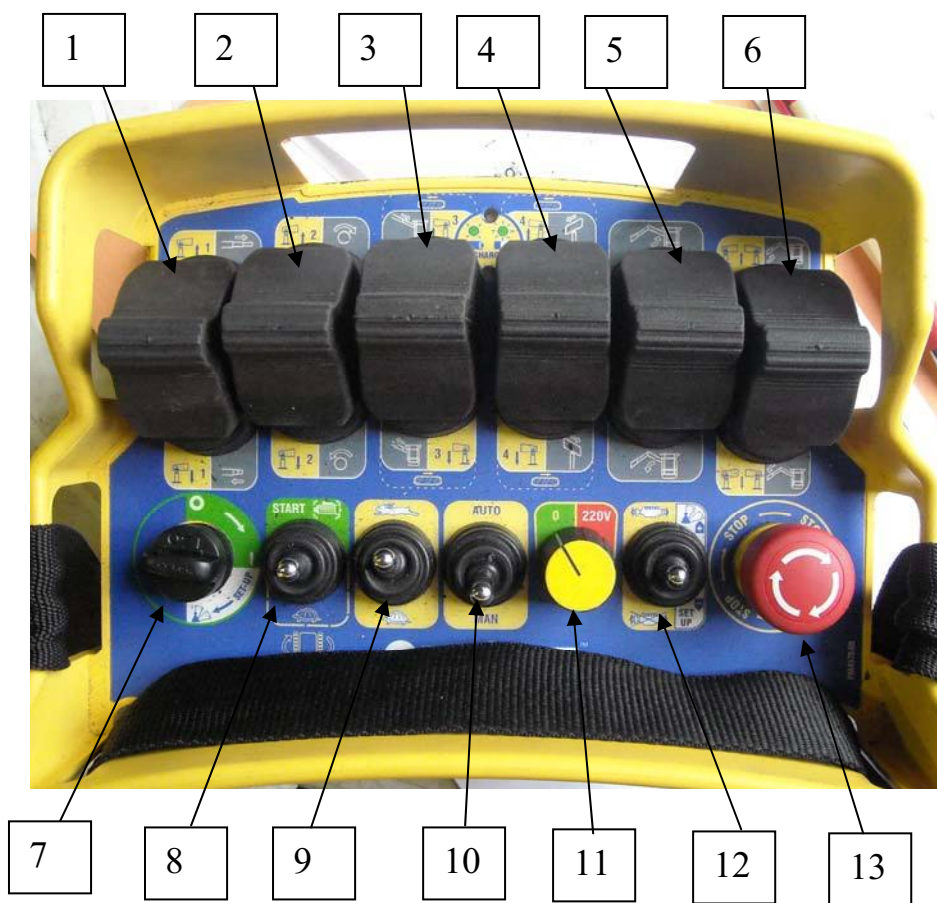

Fig.3.6
- it is possibile to start engine also from ground control panel, by the switch 12 of Fig. 3.6, but before it's necessary to activate it (see radio control manual).
- select “rabbit or snail” on the ground control panel with switch 9 in fig. 3.6
- softly act the two control levers 1 and 6 in fig. 3.6 to transfer forward or backward.
- with the engine on, push the button part. 2 in fig. 3.2 and contemporarily, from the ground controls panel, lift the boom up (part.6 Fig. 3.6).
Platform can be also be rotated, acting on the two levers 1 and 5 of Fig. 3.6 at the same time and in contrary sense. It is advised to make this manoeuvre at a low speed and on flat and regular ground, only
Slow speed pre-selection 10 of Fig. 3.6 increases braking action and, therefore, it is recommended for driving and parking on a slope
- Automatic mode: switch on "Auto" the selector pos. 10 fig. 3.6. Activate the joystick pos. 1 fig. 3.6 to give the direction of the movement, and at the same time push forward the joystick pos. 6 of the same picture, to give oil to the stabilizer. In this modality the machine levelling automatically and when the frame is in horizontal position, the system stop the stabilizer movements. **Note: check always the correct level of the frame using the visual bubble on the frame.**
- Manual mode: switch the pos. 10 fig. 3.6 on "Man". Activate the joystick from pos. 1 to 4 fig. 3.6 to give the direction movements for each stabilizer and at the same time push forward the joystick pos. 6 of the same pictures, to give oil to the stabilizer. In this modality it's possible to move separately every stabilizer.